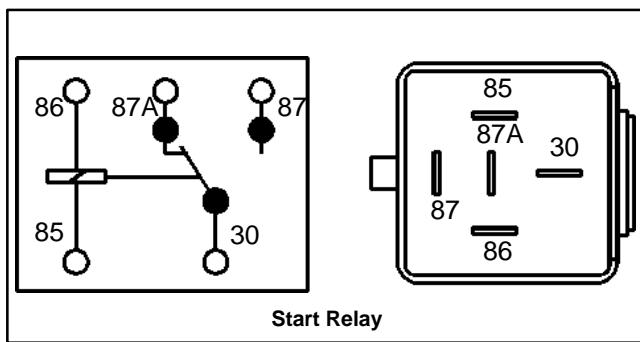

Figure 14
B. For the **start** relay (Bosch #0 332 204 174), resistance should be from 60 to 70 ohms (Fig. 14).
C. For the **start** relay (Potter & Brumfield #VF4-55F11), resistance should be from 85 to 95 ohms (Fig. 14).
D. For the **start** relay (Hella Electronics #66214), resistance should be from 70 to 80 ohms (Fig. 14).